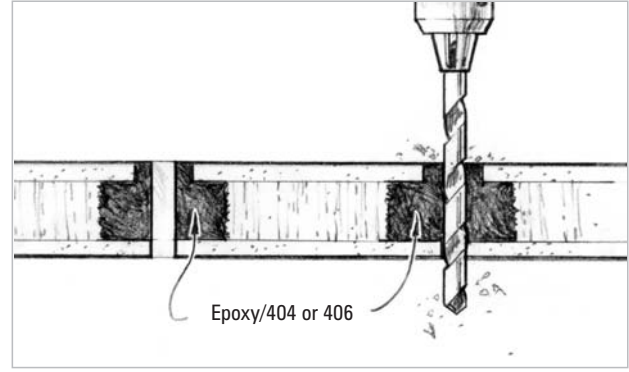

Figure 7-3 Re-drill slightly oversized fastener holes through the cured epoxy.
4. Temporarily place the hardware item in position and trace the outline of the base and the fastener holes with a pencil. Re-drill slightly oversized fastener holes through the cured epoxy (Figure 7-3).